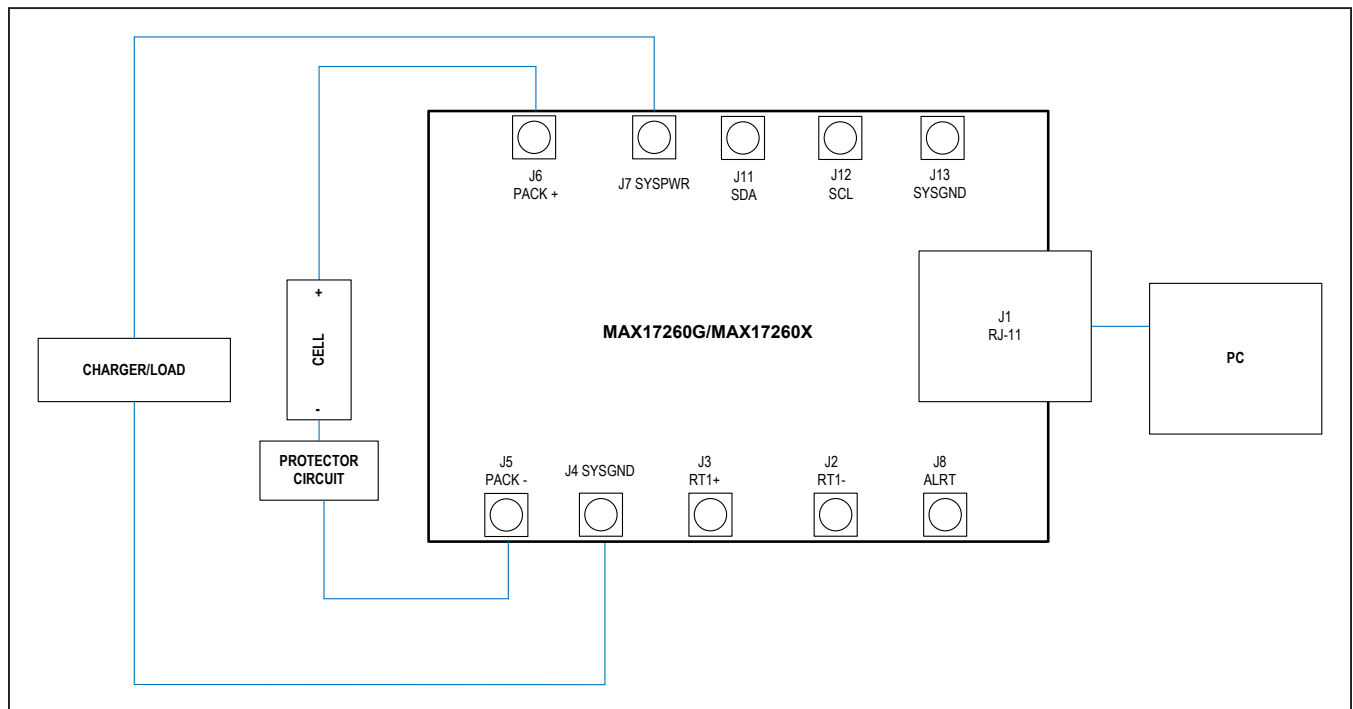

Figure 1. MAX17260 Board Connections
- 5) Make connections to the EV kit board based on cell pack configuration as shown in Figure 1. The load or charger circuit can be connected at this time as well. The cell connects between the PACK- and PACK+ pads and the charger/load connects between the SYSGND and SYSPWR pads. Connect a jumper on J9 to choose between high-side and low-side current measurement. For high-side current measurement, connect pin 1 and 2 on J9. For low-side current measurement, connect pin 2 and 3.